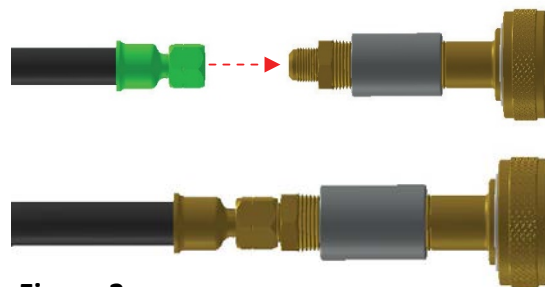

Figure 3
- 4) Connect service evacuation hose to the evacuation adapter. **Torque: Fully Seated Not Stripped, Not Leaking. Figure 3**